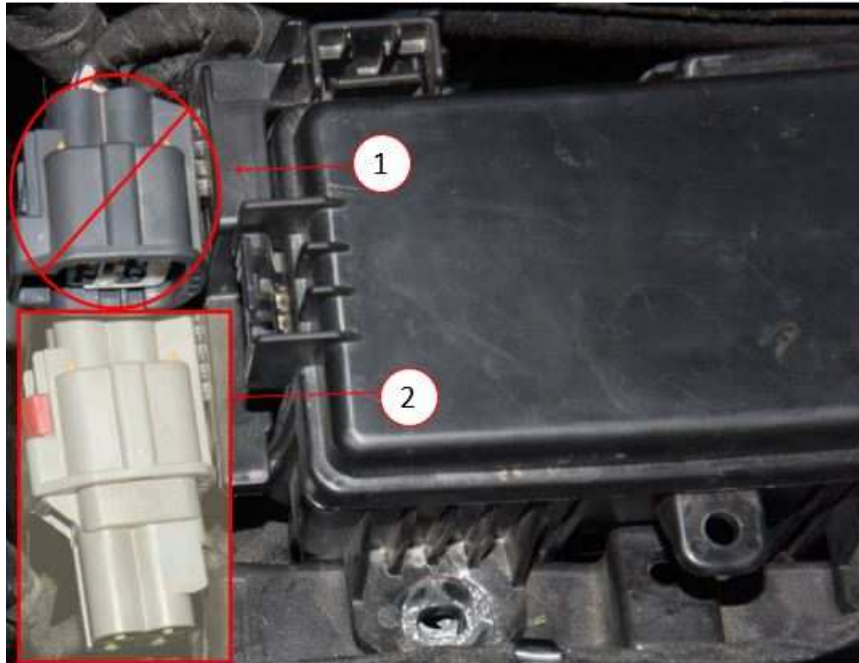

Fig. 5
9. Disconnect the connector or male plug from the light gray connector, (Fig. 5) .